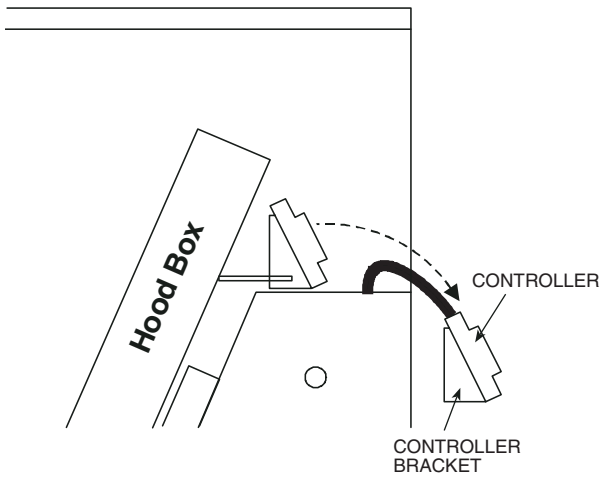

Fig. 18 — Temporary EconoMiSer2 Controller Relocation
controller. See Fig. 18. Do not disconnect the controller wiring.
- b. Remove the screw holding the hood box bracket to the top of the EconoMi\$er2. Slide the hood box out of the unit. See Fig. 18 and 19.